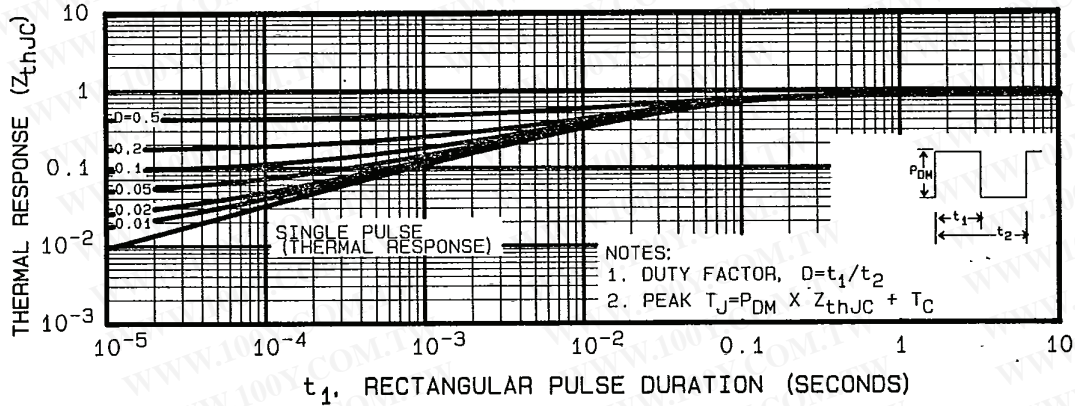

Fig. 14 - Maximum Effective Transient Thermal Impedance, Junction-to-Case vs. Pulse Duration
- Repetitive rating; pulse width limited by maximum junction temperature (see fig. 14).
- a. Repetitive rating; pulse width limited by maximum junction temperature (see fig. 14).